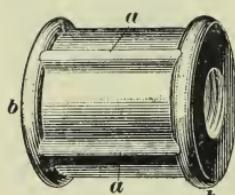

FIG. 33
**47.** A **right-and-left coupling** is shown in Fig. 33. It is used for coupling up pipe lengths where final joints are to be made and where the pipes cannot be turned. It consists of a sleeve tapped with a right-hand thread in one end